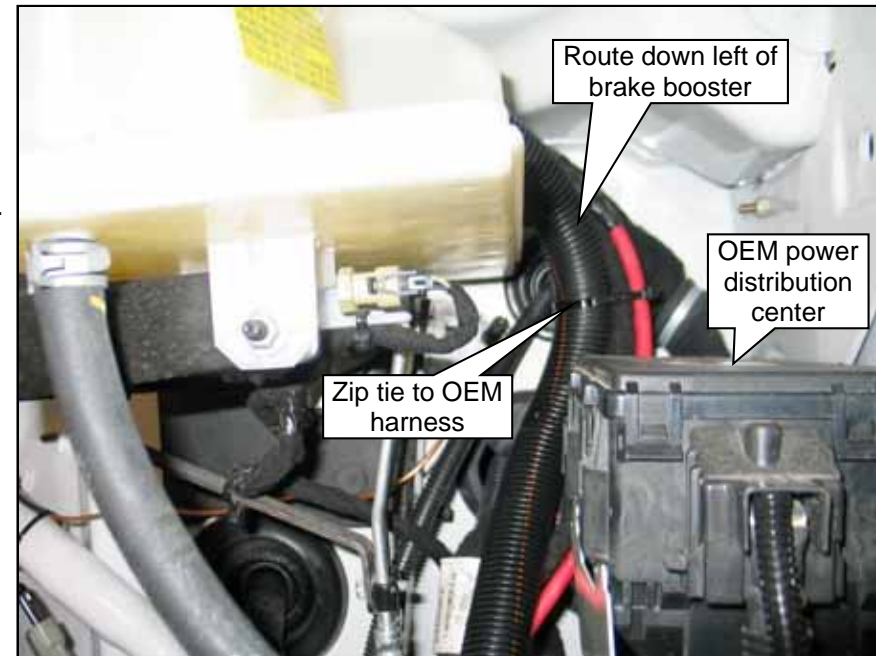

Figure 18.1
9. Route the underhood harness down to the left of the brake booster. Continue down between the left inner fender and fender brace. **Figure 18.1.**